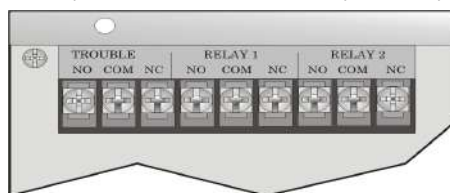

Figure 4.56 Location of Conventional Relay Circuits
1. Wire Relay 1 and/or Relay 2 as needed for your application. See Figure 4.56 for the location of the relay terminals.